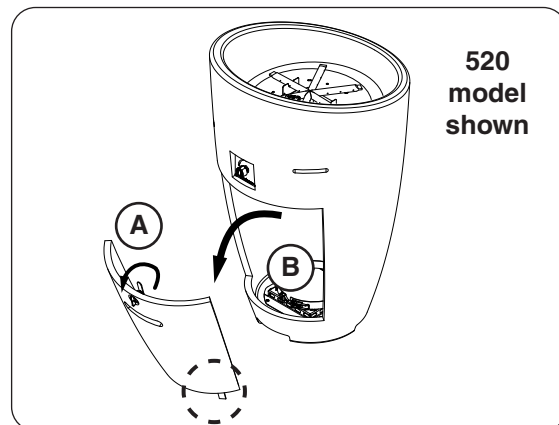

Fig. 17-2 Remove storage door (if applicable)
2. If equipped remove the storage door by first turning the door handle counter-clockwise, then carefully pulling the door outward (see Fig. 17-2). Store in a safe location.